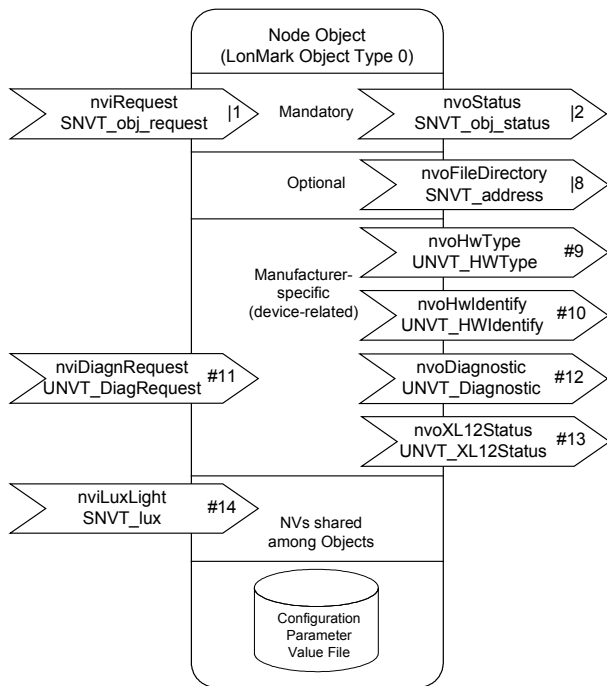

Fig. 4. Node Object
- one node object (see Fig. 4)